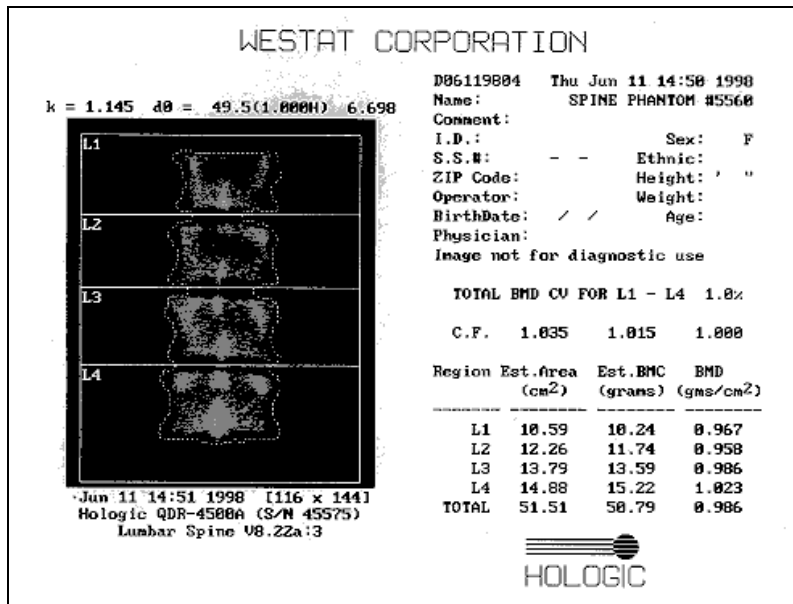

Figure 6-4. Spine phantom QC image
- Look at the image and verify that there are no artifacts or problems with the image. (If image problems were detected, press 'Esc' to return to 'QC Selections' menu and rescan the phantom.) See Figure 6-4 for an example of a spine phantom image.